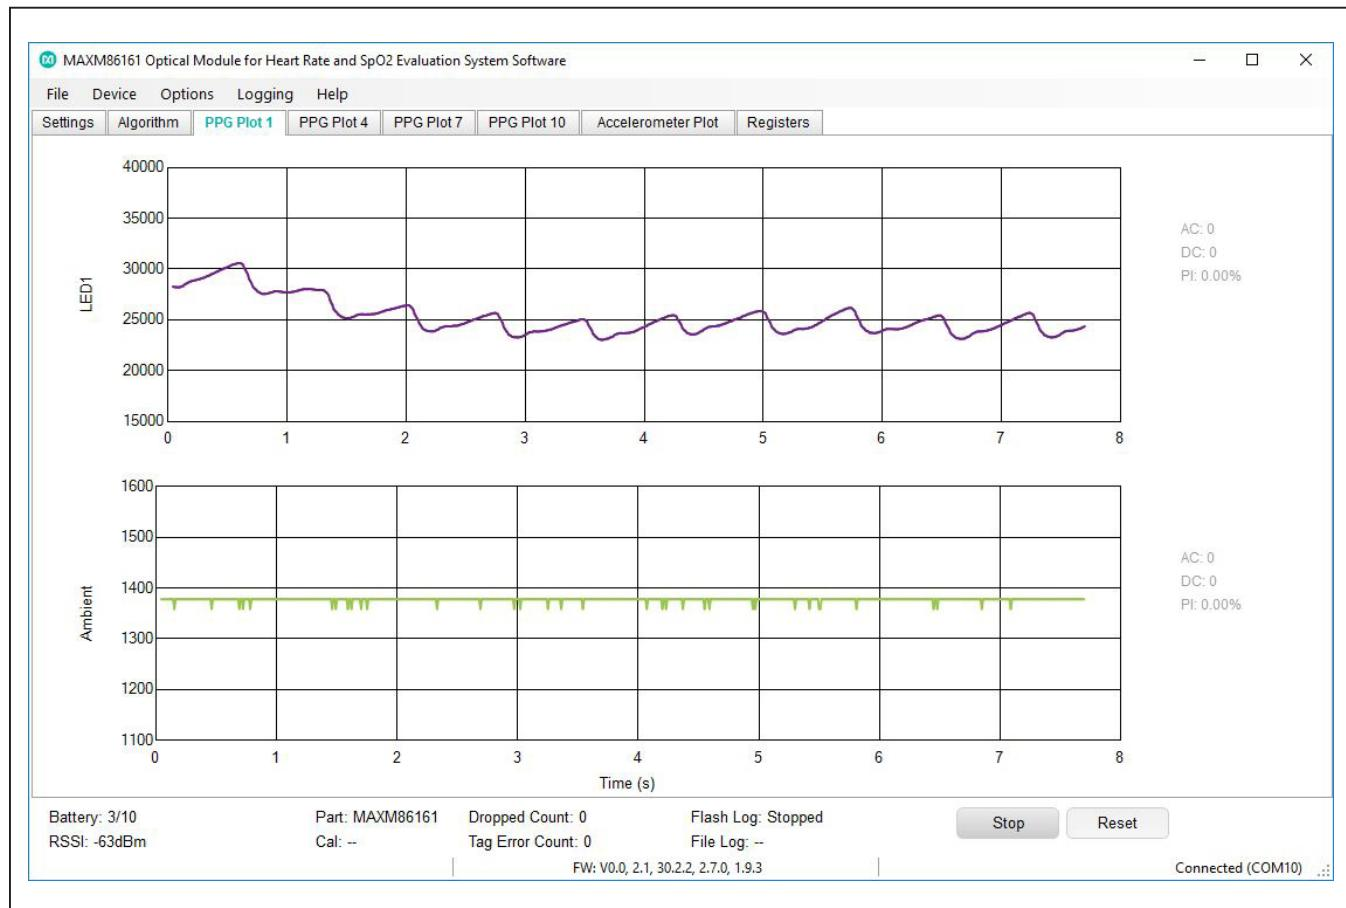
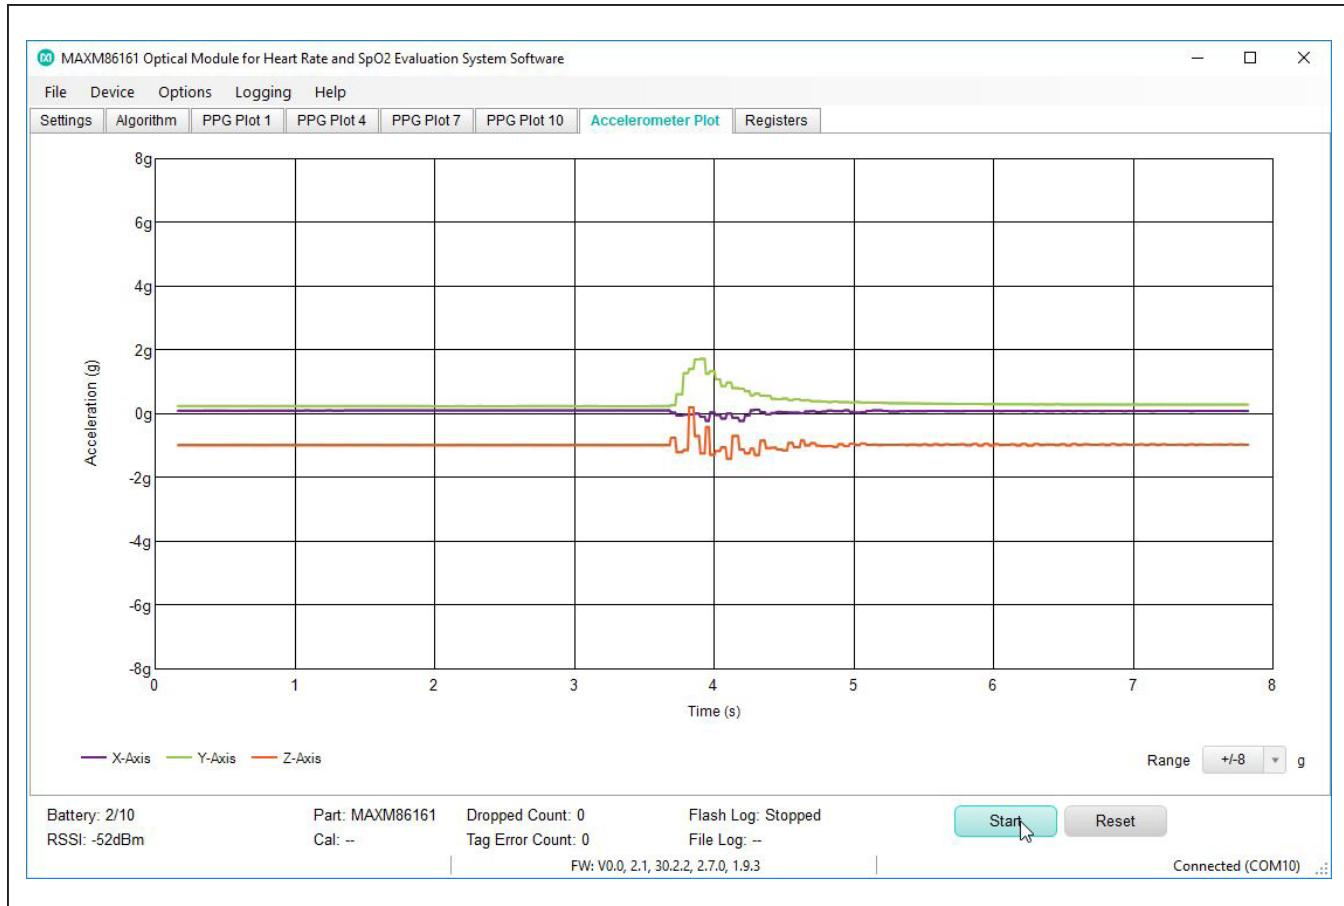

Figure 13. MAXM86161 EV System GUI (PPG Plots)
Figure 14. MAXM86161 EV System GUI (Accelerometer Plots)
10) Verify the LEDs on the Micro PCB illuminate and the plots on the GUI stream with data and algorithm output as shown in Figure 13 and Figure 14.